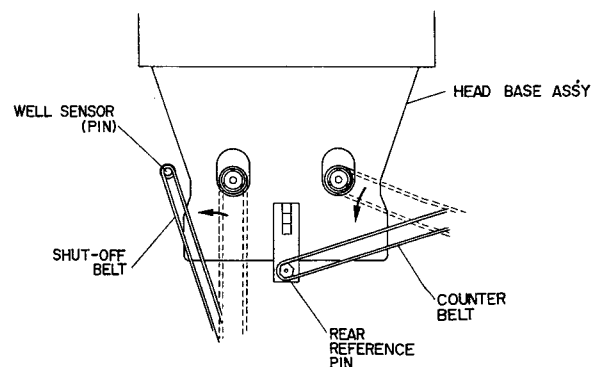

Fig. 6.3 Ball Drive Mechanism Ass'y Replacement
- (1) Refer to Fig. 6.3. After removing the cabinet assembly, remove the counter belt and shut-off belt from the reel hub and hang them on the studs.
- (2) Remove flywheel holder, capstan belt and two sets of flywheel assembly (including washer, flange thrust stud and thrust spring). (When mounting the flywheel holder, use care to attach it in the correct direction to